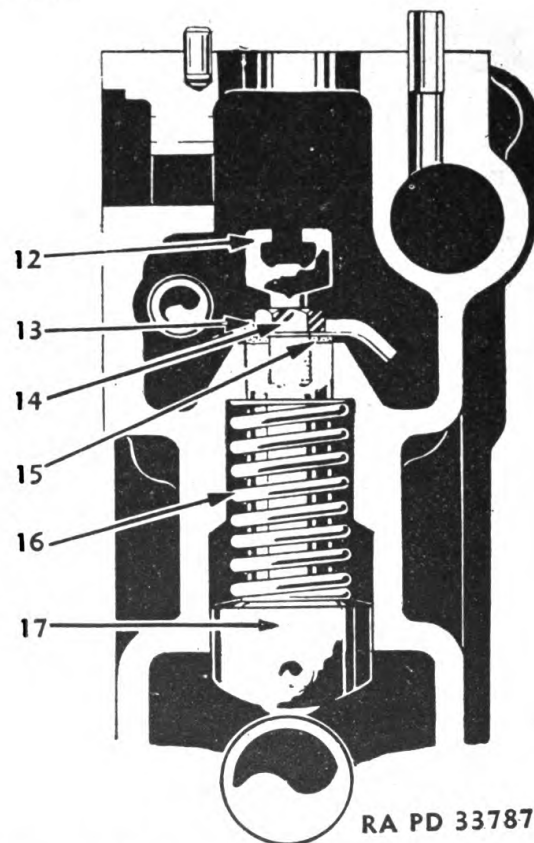

FIGURE 64.—Fuel injection pump lifter spring assembly—schematic.
c. Remove yoke (12) (fig. 64), lock nut (14), and oil trough (13) from the top of lifter assembly (17) and lower the remainder of the assembly out the bottom of fuel injection pump housing. The lifter spring (16) can then be installed and the unit put back in position. Install a new gasket (15) if the old one is damaged.